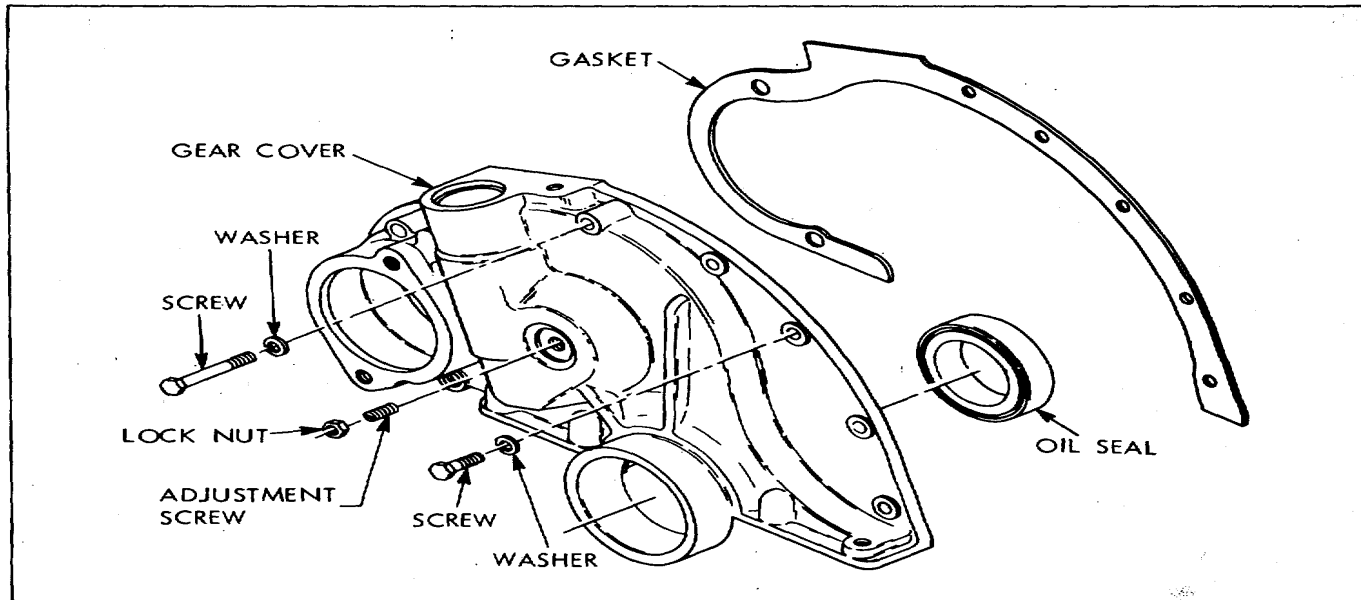

Figure 6-31. Gear Cover Assembly
(1) Remove radiator, disconnect governor to carburetor control rod hooked to governor lever.
(2) Remove governor attaching screws and lift governor away from gear cover.
(3) Remove hydraulic pump (paragraph 6-29).
(4) Remove starting crank grab and fan drive pulley.
(5) If engine is in vehicle, remove front motor support screws. If necessary to raise front of motor to release the front support, use a large block of wood under front of oil pan so jack will not damage it. The front support may be removed from the gear cover, if necessary.
(6) Remove gear cover attaching screws (Figure 6-31) and pull gear cover forward away from the engine. The crankshaft oil seal will pull off the shaft with the gear cover. If no gasket or seals are available, use care when removing these parts.